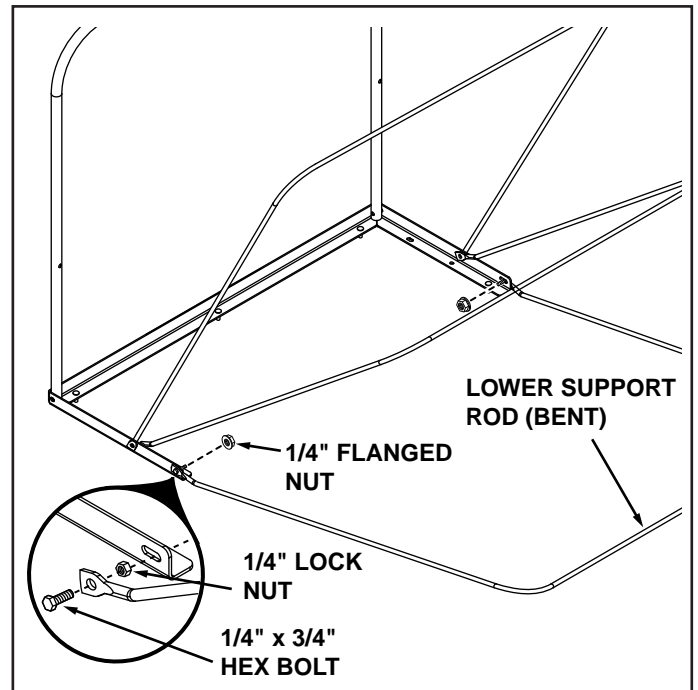

FIGURE 21
- Assemble a 1/4" x 3/4" bolt and 1/4" lock nut to each end of the second lower support rod. **TIGHTEN**, then back nut off 1/2 turn. See figure 21.
- Attach the lower support rod to the **outside** of the top support angle using two 1/4" flanged nuts. **TIGHTEN**. See figure 21.